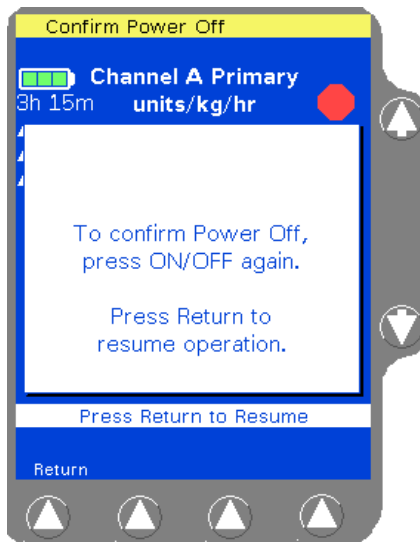

Figure 4-108 Standard Power Off Pop-up
1. Press the **ON/OFF CHARGE** key to power off the pump. A Power Off pop-up displays (Figure 4-108).